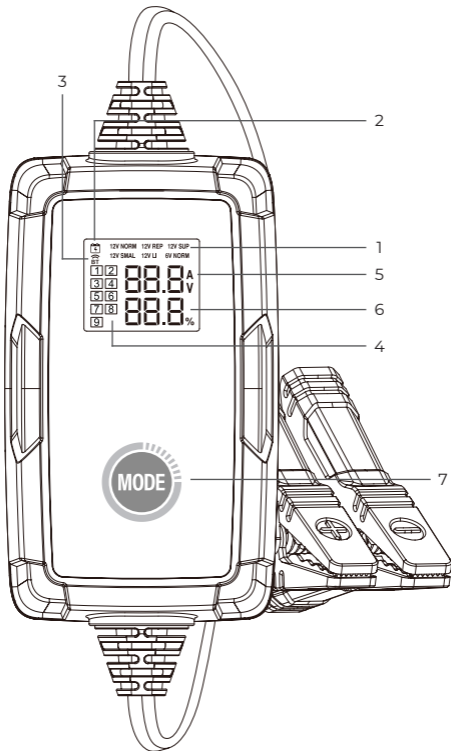

Figure 2.1.1
1. 6 Battery Charging Modes: Under the standalone mode, TB6000Pro provides with you 6 different modes 12V/6A Norm, 12V/1A Repair, 12V/6A Supply, 12V/3A Small, 12V/6A Lithium-ion battery, 6V/3A Norm. (See figure 2.1.1) Once the charger is connected to the phone via BT, you can customize the charging process and parameters. (For details, please refer to Section 3)